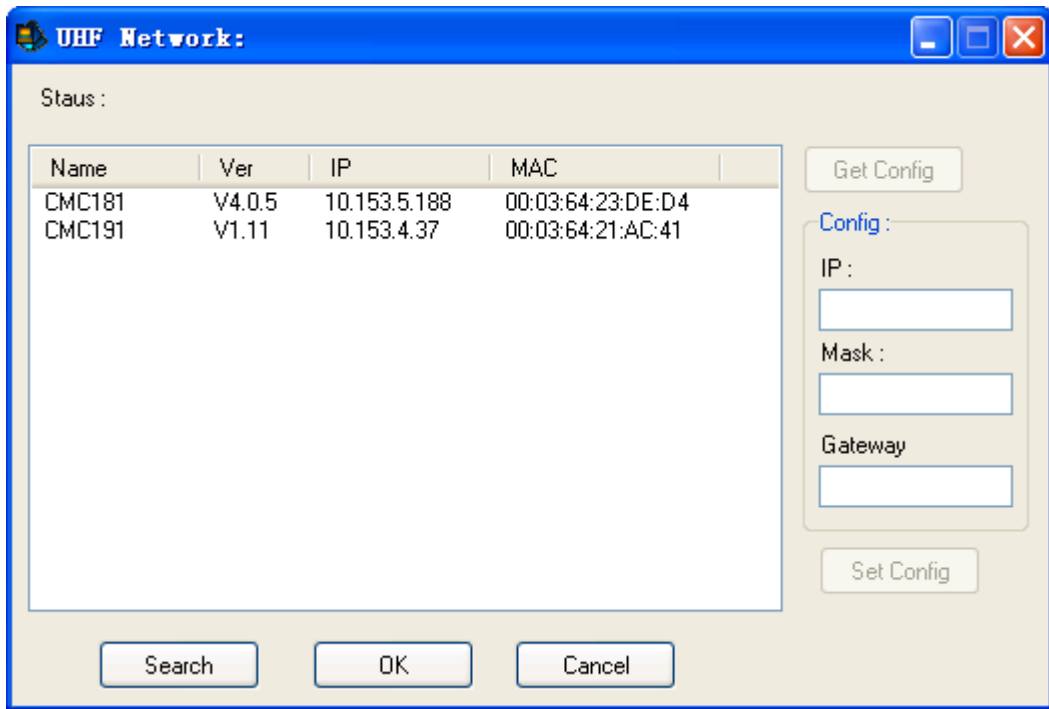

Figure 2.3
3. In Figure 2.2 ,select“ TCP/IP” and then click “search”, you will see Figure 2.3.